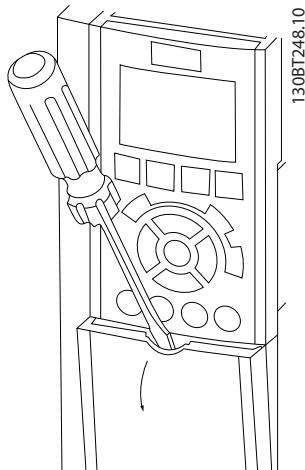
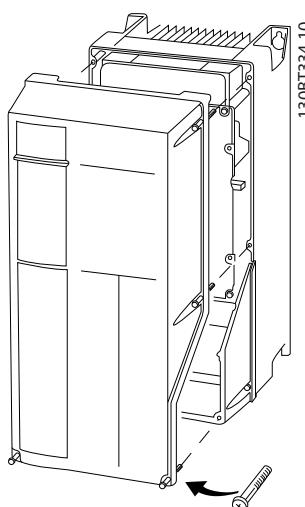

Figure 4.3 Access to Wiring for IP20 and IP21 Enclosures
Figure 4.4 Access to Wiring for IP55 and IP66 Enclosures
- Remove the cover with a screw driver (See *Figure 4.3*) or by loosening the attaching screws (See *Figure 4.4*).